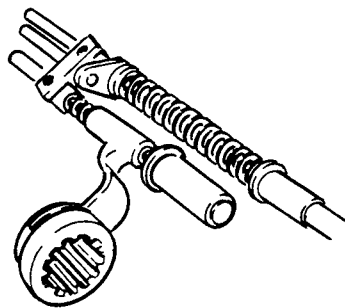

Fig H1.95
- (3) Refer to Fig H1.95. Remove the selector shaft assembly and coupling dog of the four wheel drive.